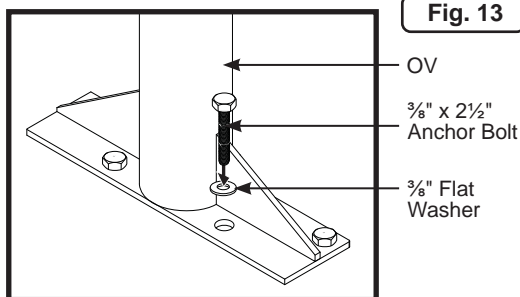

Fig. 13
5. Place the OV back over the anchor holes and anchor it with four  $\frac{3}{8}$ " x  $2\frac{1}{2}$ " anchor bolts and flat washers (Figure 13).